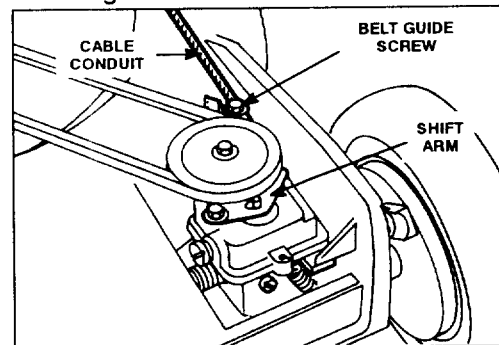

Figure 22
3. ADJUSTMENT (Fig. 22)—Loosen belt guide screw until cable conduit slides. Move handle—mounted wheel drive control to **N** position. Move shift arm toward clamp screw and hold in place. Pull cable conduit to remove slack and tighten belt guide screw.